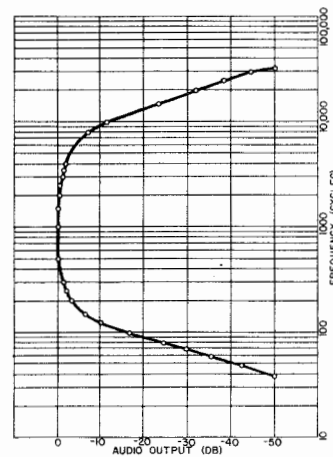
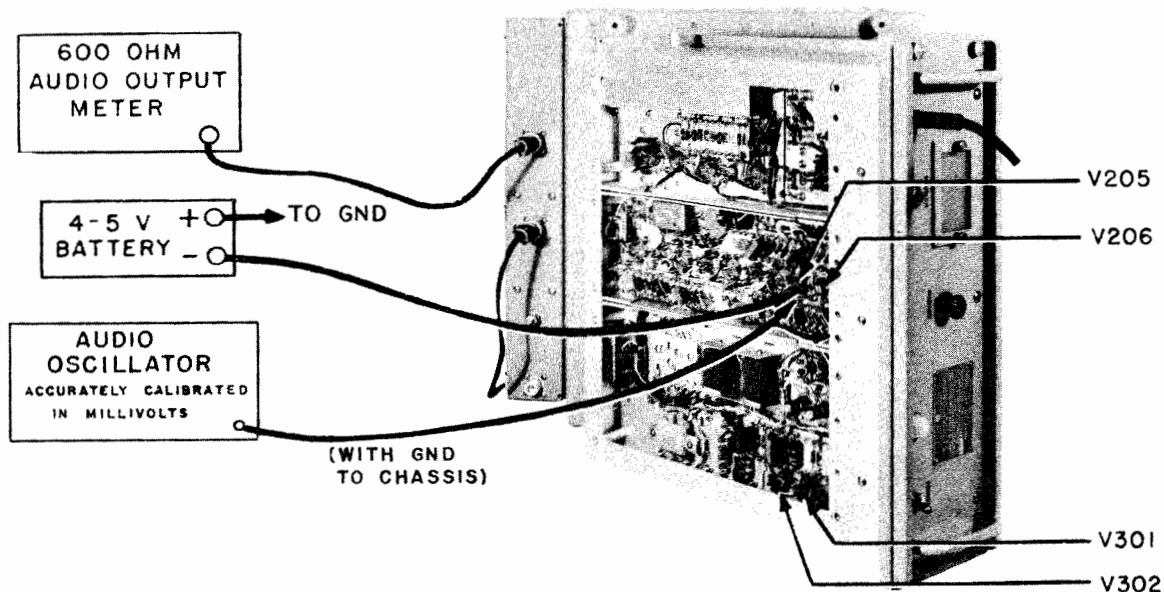

Figure 7-10. Audio Frequency Response
Figure 7-11. Audio Test Set-up
(1) Connect the 600 ohm audio output meter across pins A and B of audio receptacle J503, located on the rear panel. Proceed with the test as outlined in table 7-7. The test set-up is shown in figure 7-11. The overall audio response is indicated by figure 7-10.